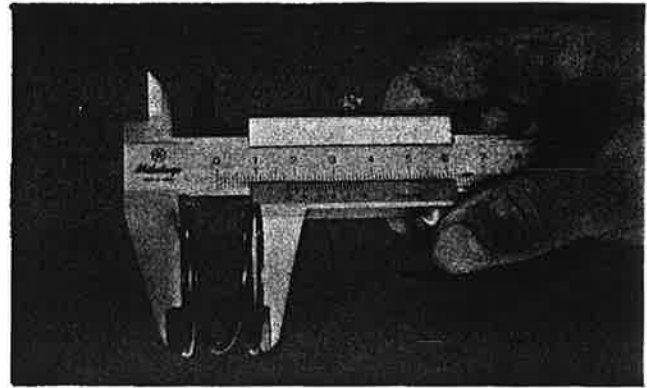

Fig. 3-3-32
5. Check ratchet wheel spring for fatigue. If free length shows spring has collapsed beyond specification, replace. (Fig. 3-3-32)